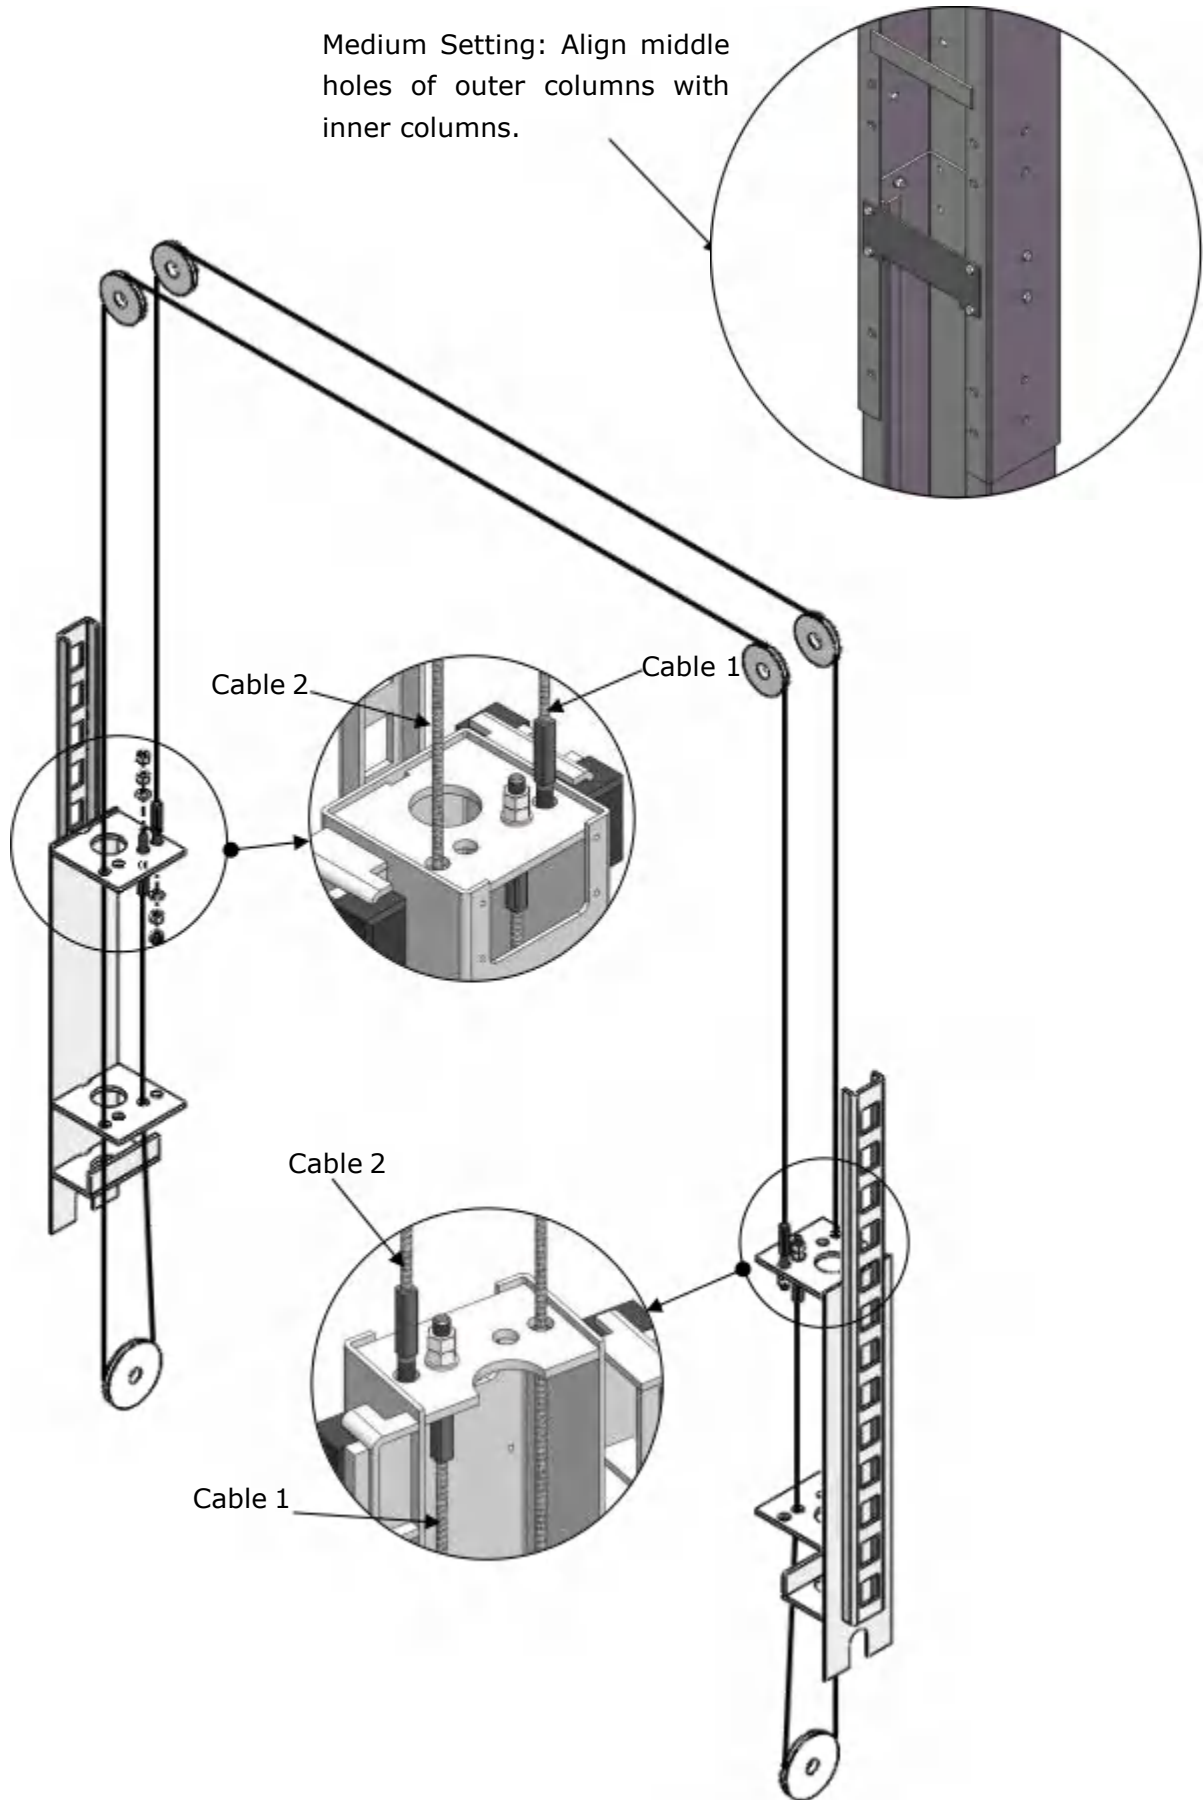

Fig. 32
2. Sync cable connection of medium setting installation. **(See Fig. 32)**